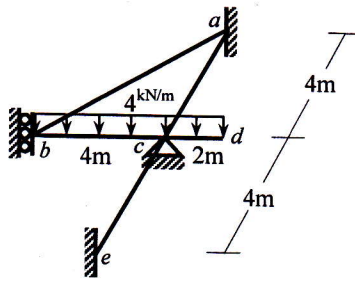

Fig. 8
11. For the grid loaded as shown in **Fig. 8**, use the stiffness method to calculate the vertical deflection at b and rotation at c [Given: $EI = 15 \times 10^3 \text{ kN-m}^2$, $GJ = 10 \times 10^3 \text{ kN-m}^2$].